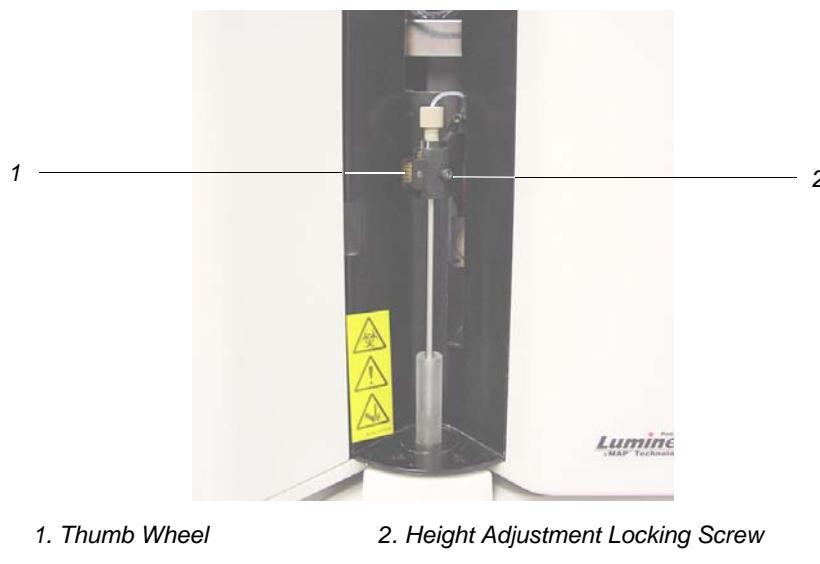

Figure B-9 Thumb Wheel and Height Adjustment Locking Screw
You must adjust the sample probe vertical height each time you change the type or style of microtiter plate. Since this is a new installation, you need to adjust the sample probe for your microtiter plates. See Figure B-9.
4. Use the 3/32 inch hex wrench to loosen the height adjustment locking screw. See Figure B-9.